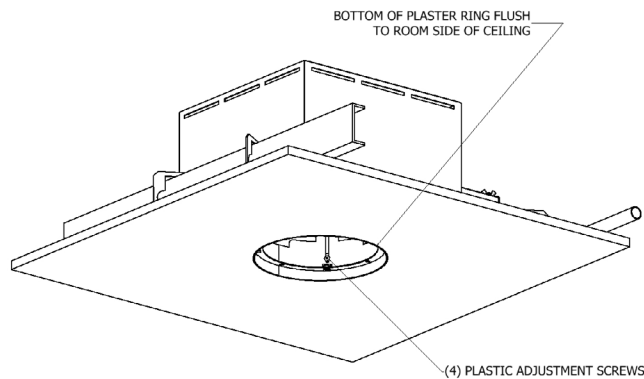

Figure 3
3. Loosen two (2) screws in mounting brackets to adjust the height of the Rough-In frame to level with the bottom of the joists. Re-tighten when in position.
7. Loosen (4) plastic screws securing PLASTER RING and adjust such that bottom of ring will be flush to room side of ceiling. Retighten screws. Figure 3.